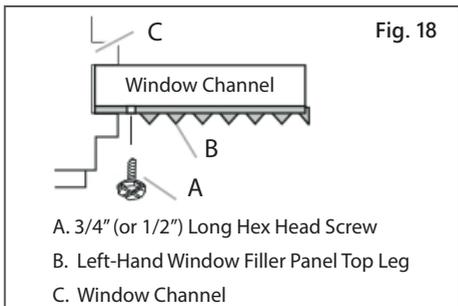
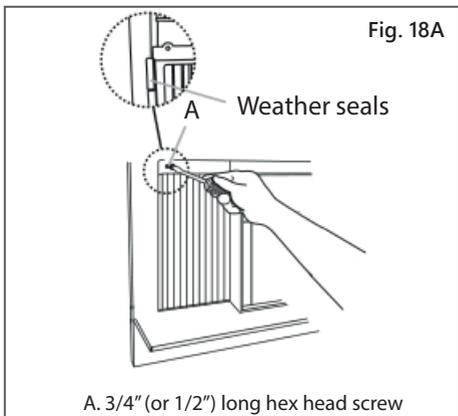

Fig. 18
Fig. 18A
- Use a 1/8" drill bit to drill a starter hole through the hole in the top leg of each window filler panel and into the window sash (Fig. 18 and Fig. 18A). Connect with one 3/4" (or 1/2") long hex head screw.